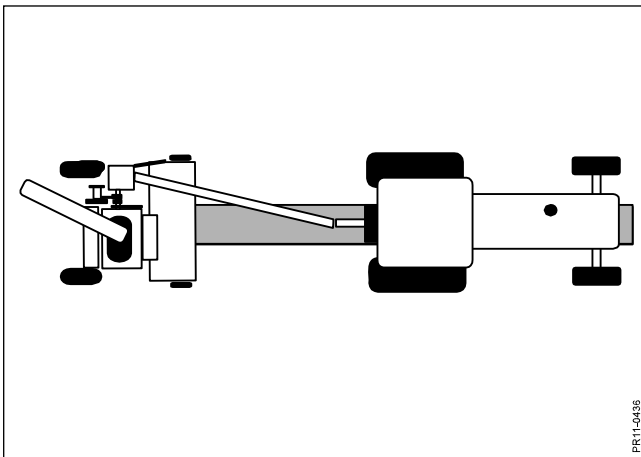

Fig. 5-9
- Fig. 5-9** 3) Here the chopper works in-line as the tractor drives over the swath. This technique is of course very suitable for picking up single swaths as you avoid that the tractor drives on the crop. The technique is still suitable for unloading to both sides and brings the tractors close to each other.